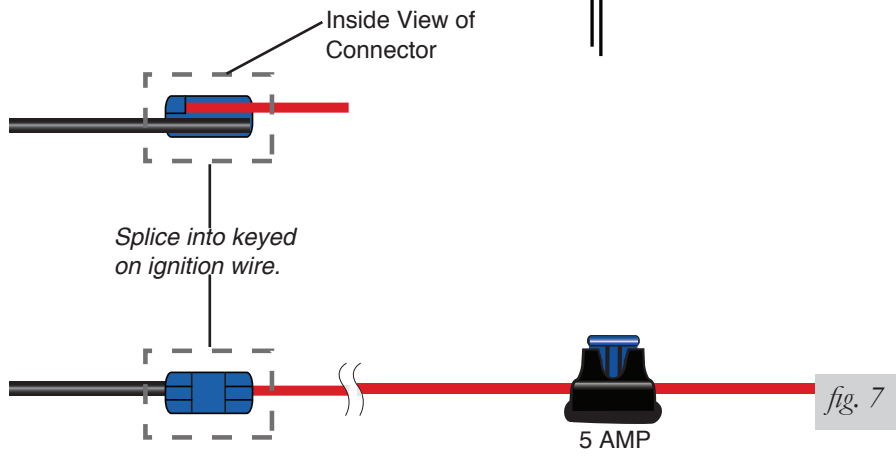

fig. 7
- Splice the red wire with the 5 AMP fuse that is connected to the back of the relay to a keyed on ignition wire (fig. 7).